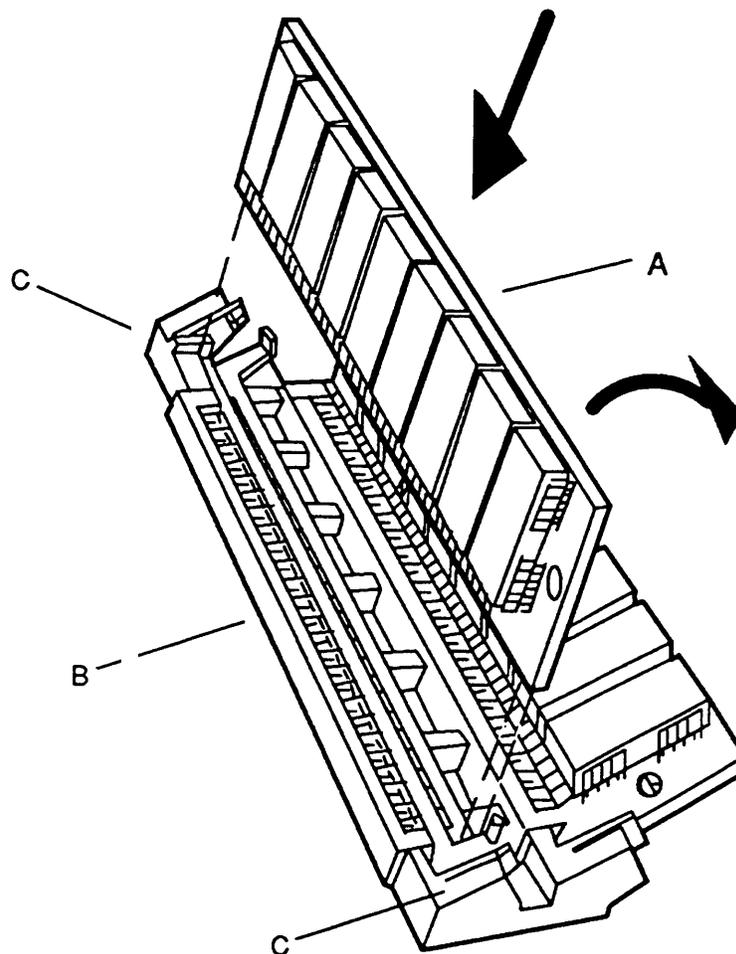

Figure 2-11. Inserting the SIMMs into Sockets
3. Refer to Figure 2-11. Holding the SIMM only by the edges (A), align the **SIMM** with its socket (**B**). The contact edge should be inserted into the socket first. The chips should be on top of the SIMM circuit board. Press down firmly while maintaining the angle of insertion.